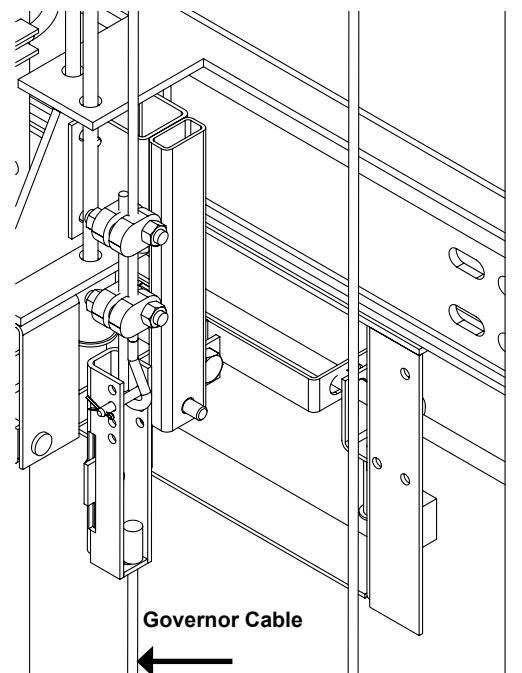

Figure 65 Cables on Lifting Bracket
- 11) Take up the excess slack and create a small loop at the end of the cable, insert the thimble then, clamp it together. Refer to Figure 65.